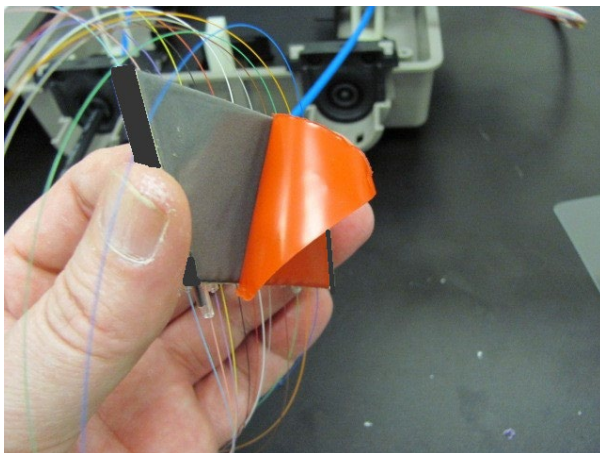

Figure 9
4. Remove adhesive backing from splice chip holder (Figure 9)